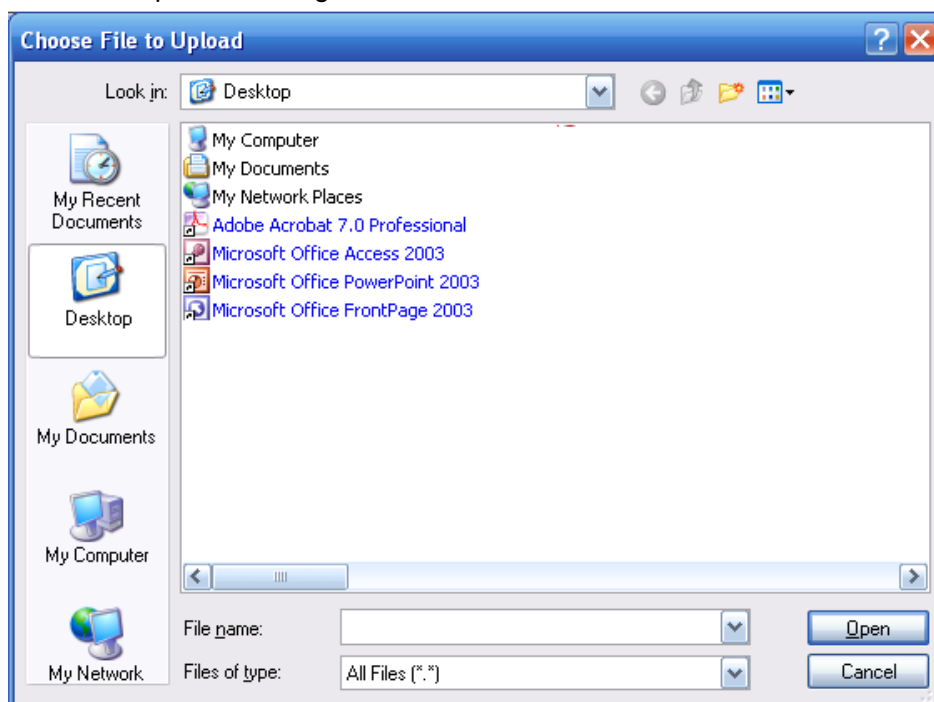

Figure 5-150
Step 2 Click Select audio button, you can add audio file and import the audio file via the local computer. See Figure 5-150.